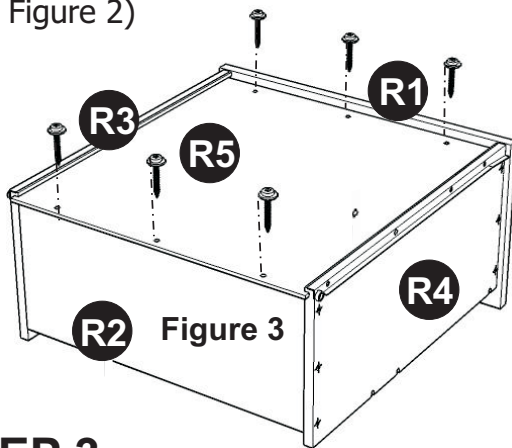

Figure 3
Attach Doors (N) and (O) by sliding the door lift hinges into the side panels lift hinges (See figure 3).
Insert short wood screws (2X) into the pre-drilled holes in Q5, tighten screws. (see Figure 3)
Insert short wood screws (6X) into the pre-drilled holes in R5, tighten screws. (see Figure 3)